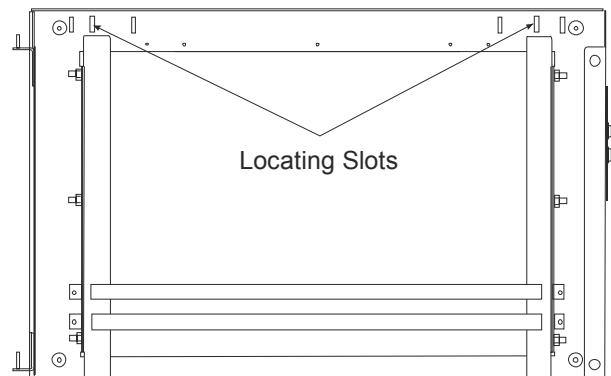

Figure 63
4. Offer the mounting frame up to the appliance opening and centralise it by aligning the locating slots with the flange of the box. Refer to **Figure 63**.